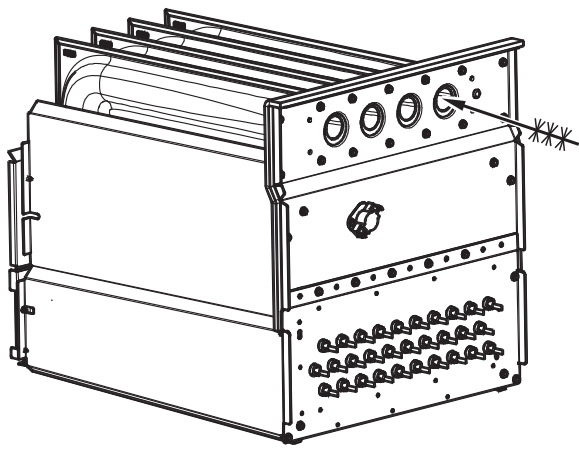

Fig. 68 - Cleaning Heat Exchanger Cell
7. Clean heat exchanger openings with a vacuum and a soft brush. See Fig. 68.